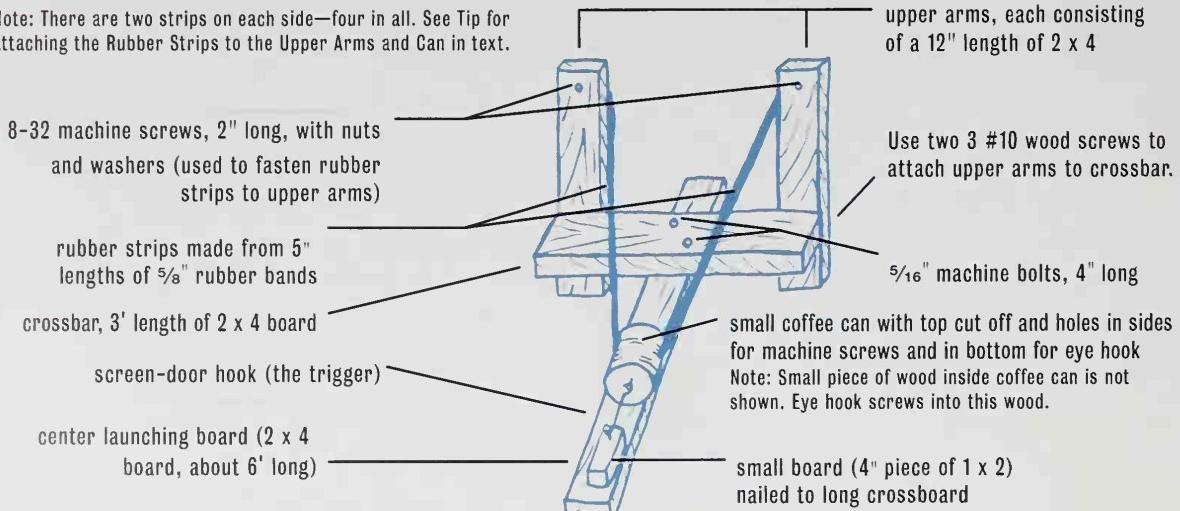

Fig. 1
2. Make sure there are no sharp edges in or on the can. If there are, use a file to smooth them. Drill two $\frac{1}{8}$ " holes in the sides of the can around 1" from top and opposite each other. These holes are for the machine screws, which are used to attach the rubber strips. Also, drill $\frac{1}{4}$ " hole in the center of the bottom of the can for the eye hook, using Fig. 1 as a guide. To attach the eye hook to the bottom of the can, first place a small piece of wood inside the can, then screw the eye hook into it.
- Using Fig. 1 as a guide, use two 3"-long #10 wood screws to attach each upper arm to the ends of the crossbar. (Note: 16d nails can be used to do this instead of wood screws.)